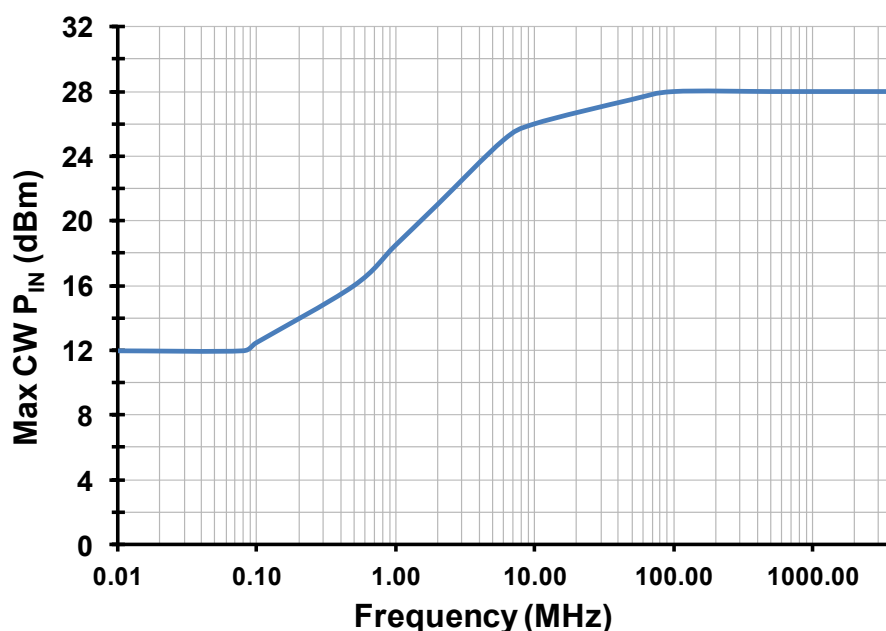

Figure 1 - Maximum Operating RF input power vs Input frequency
- Note 3: The input 0.1 dB compression point is used as a linearity figure of merit. The recommended maximum input power is specified as the lesser of the two values from RF CW Power (Figure 1) and the RF Average Power (Recommended Operating Conditions Table)..
Note 3: The input 0.1 dB compression point is used as a linearity figure of merit. The recommended maximum input power is specified as the lesser of the two values from RF CW Power (Figure 1) and the RF Average Power (Recommended Operating Conditions Table)..